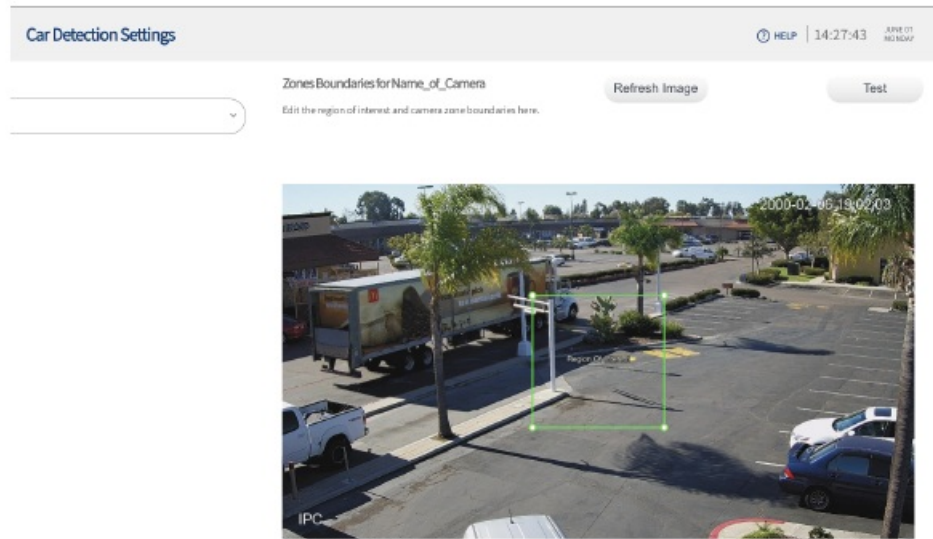

Fig. 4.4
- In the Camera Preview window the image will appear with a green bounding box in the middle. This box represents your ROI. You will now need to adjust the size and shape to define the ROI you wish the camera to focus on in the image. See Fig. 4.4.